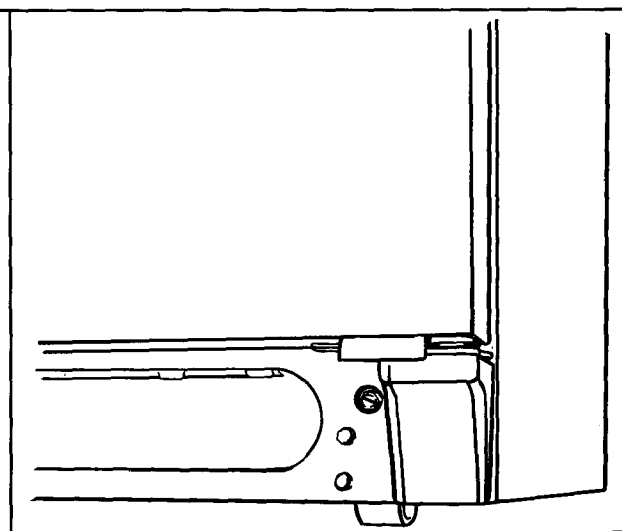

Figure 33
- To raise cabinet, rotate leveling screw in front of roller clockwise (↻) using the 3/8" hex nut driver. See Figure 33.